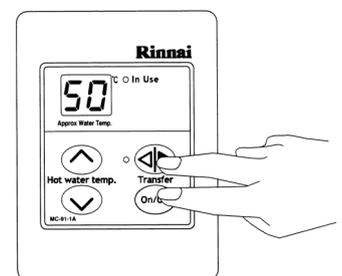

Fig. 1
STEP 1: On the Master controller only press and hold the **Transfer** and **ON/OFF** buttons simultaneously (see Fig.1) until a “beep” is heard (approx. 5 seconds).